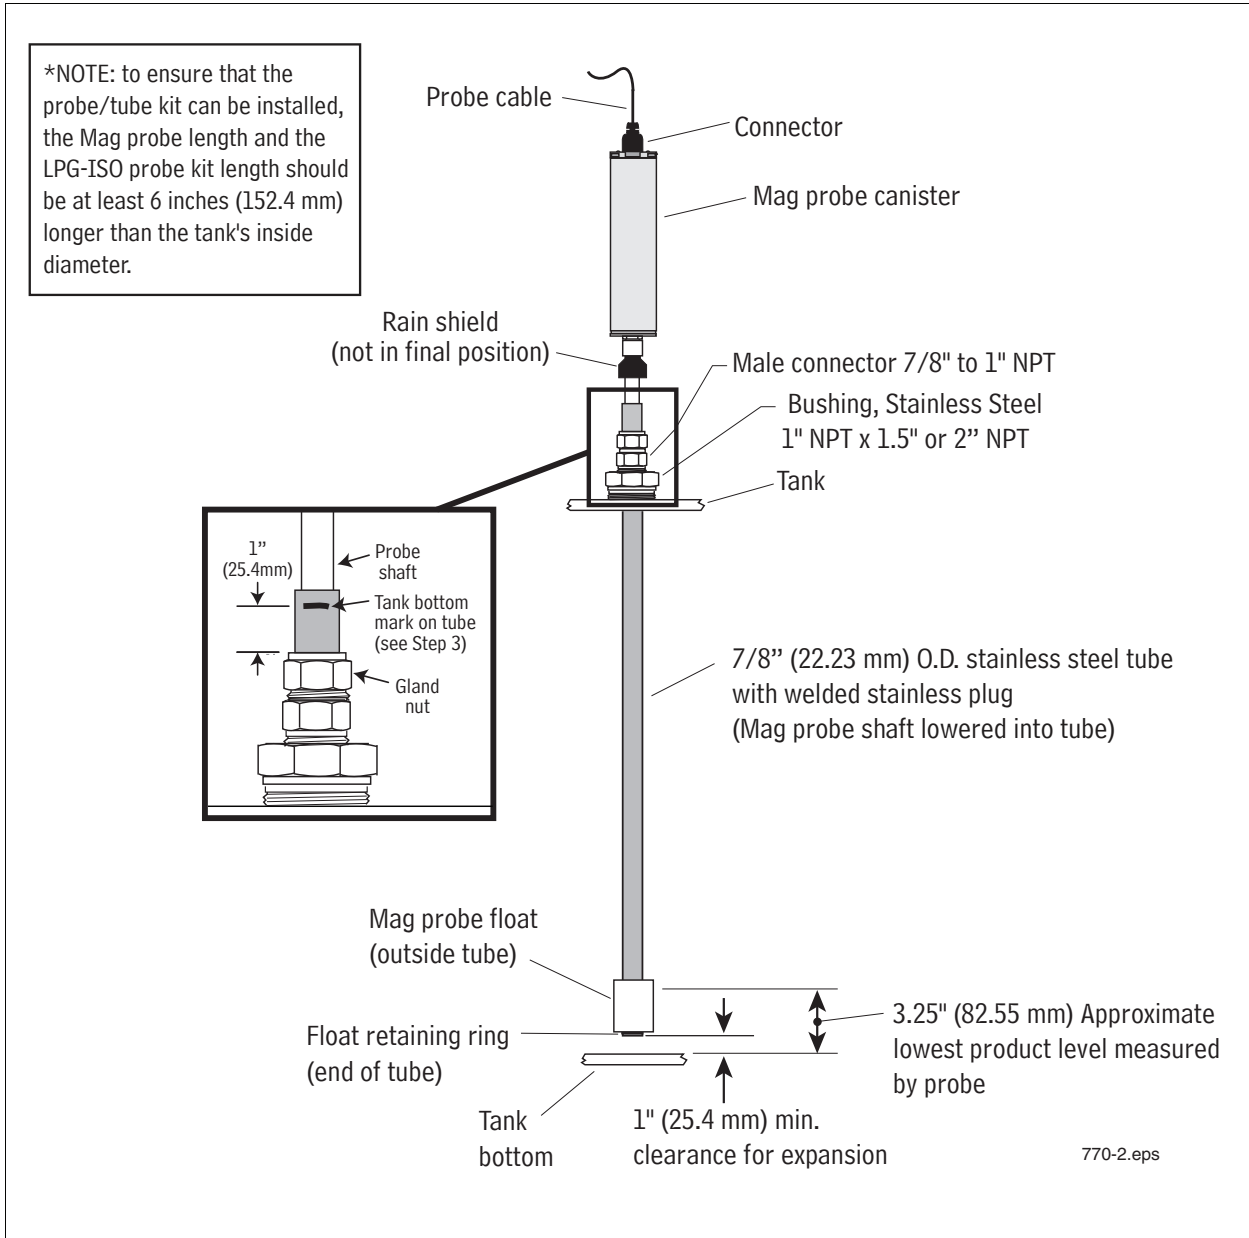

Figure 2. Media Isolated Mag Plus Probe installation example
1. With the float against the retaining ring, carefully lift the open end of the tube up and lower the assembly, float end first, into the tank until the tube rests on the bottom of the tank (Figure 2). Carefully slide the stainless steel reducing bushing, large end first, down over the tube until it rests against the tank opening. Apply UL classified sealant suitable for use with LPG to the outside bushing threads that will be screwed into the tank fitting. Screw the bushing into the tank fitting. Tighten the bushing as required to ensure a proper seal.
3. Push the tube down until it rests on the tank's bottom. Using a felt marker, make a mark on the tube at the top of the gland nut. Raise the tube until the mark is 1 inch (25.4 mm) above the nut, then hand tighten the gland nut until the tube is held in place (this distance is necessary for expansion and contraction of the tank). Tighten the gland nut one and one-quarter full turns beyond hand tight to crimp the ferrules to the tube and create the proper seal. Note that with the bottom clearance set at 1 inch (25.4 mm), the lowest level the probe can measure in the tank is approximately 3.25 inches (82.55 mm) (see Figure 2).
5. Attach the warning tag as shown in Figure 2. Attach the probe cable connector to the mating plug on the top of the probe canister. Hand tighten the connector securely.